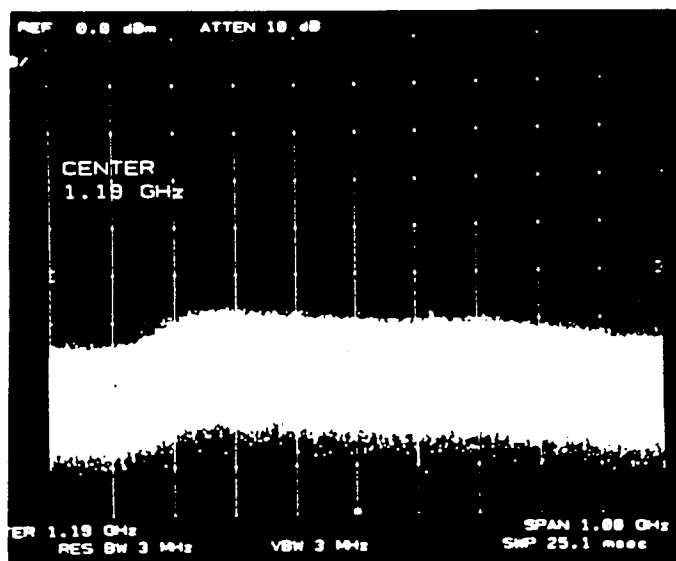

Figure 1. Pure Noise Signal on Spectrum Analyzer
2.1 While viewing the spectrum analyzer screen, a pure noise signal as shown in Figure 1 will probably be observed.